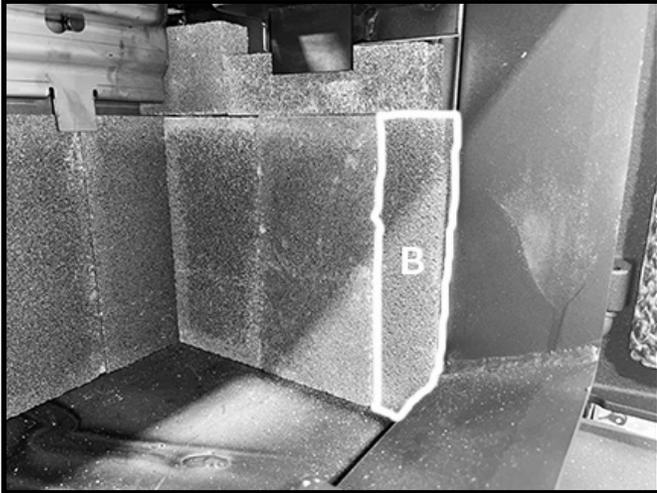

Figure 28: Final side wall firebrick in position.
5. Place a "B" firebrick under the "E" firebrick and against the side wall of the firebox (Figure 28).